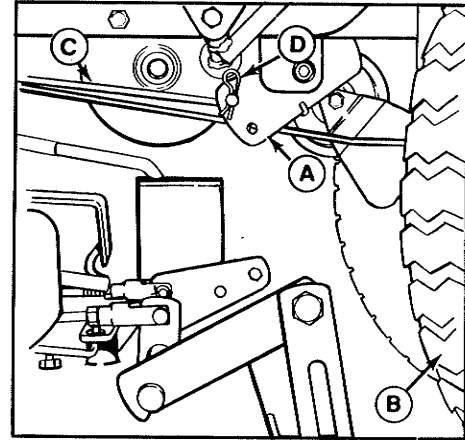

Figure 5B. PTO Rod
- Attach the PTO rod (D) to the tractor PTO lever in hole marked "MOW" with the spring clip provided (figure 5B).